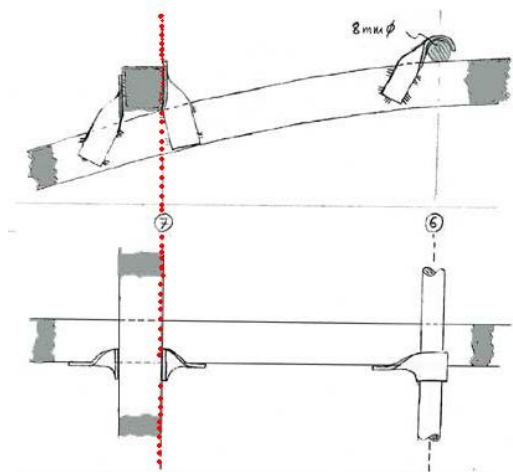

Fig. 38: Shape and position of FCcbs
**Step 5** Twist the FCcbs as shown in Fig.38.
**Step 8** On the CB7 attachment point, use a 12x12 mm square rod and weld the two designed FCcbs to FC1 to fit to the sides of this bar as shown in Fig.38.